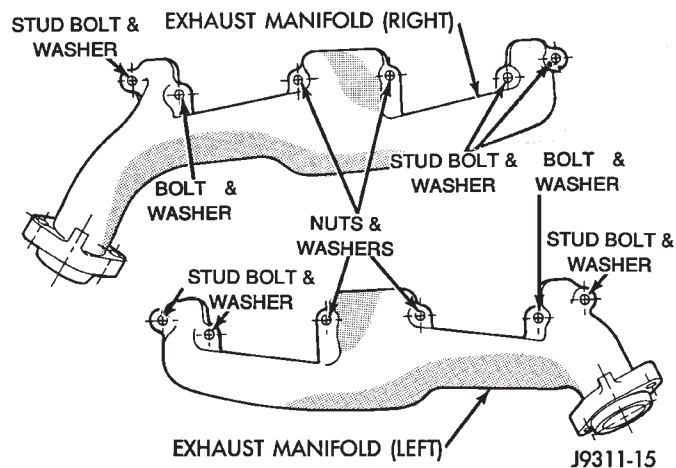

Fig. 13 Exhaust Manifold
(1) Position the exhaust manifolds on the two studs located on the cylinder head. Install conical washers and nuts on these studs (Fig. 13).
(2) Install new bolt and washer assemblies in the remaining holes (Fig. 13). Start at the center arm and work outward. Tighten the bolts and nuts to 27 N·m (20 ft. lbs.) torque.
(3) Raise the vehicle.
(4) Assemble the exhaust pipe to the exhaust manifold and secure with bolts, nuts and washers. Tighten these nuts to 31 N·m (23 ft. lbs.) torque.
(5) Lower the vehicle.